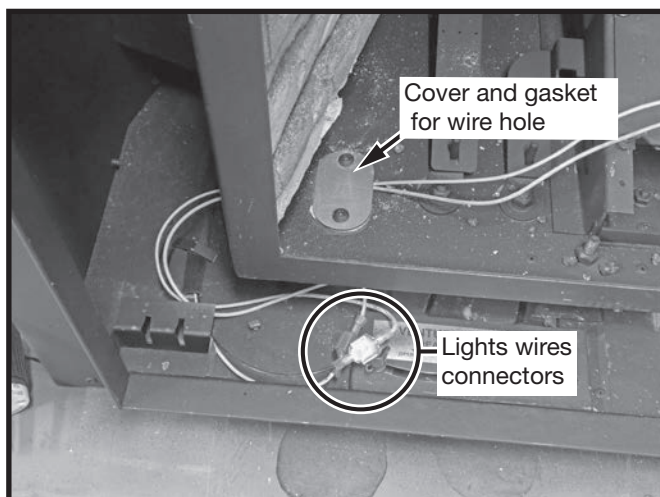

Figure 61: Lights connectors and hole cover.
4. Once wire leads are connected, place the small cover and gasket over the hole on the firebox floor and affix with two screws (Figure 61).